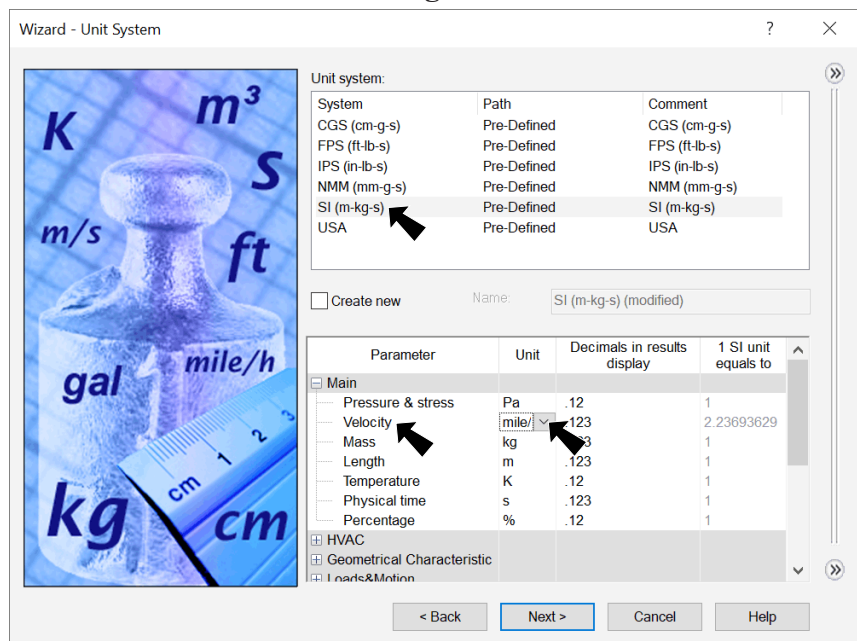

Fig. 3
Step 5. **Unit System:** Select **SI (m-kg-s)** for Unit system, Fig. 3.
Step 6. Under Parameter, set **Velocity** units to **Mile/ hour**, Fig. 3.